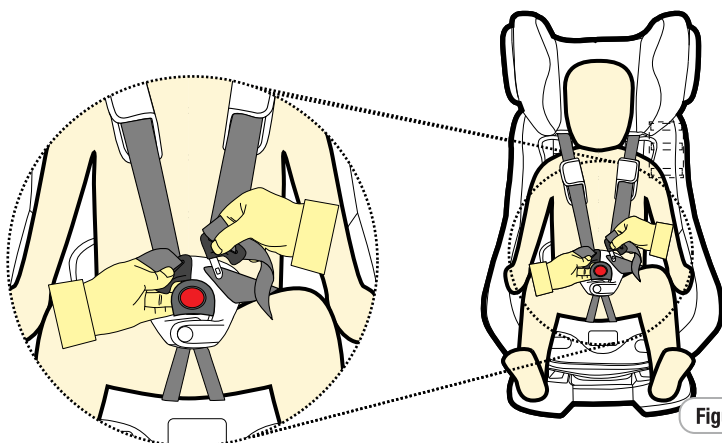

Figure 2
Step 3: Place the child in the restraint with legs either side of the buckle, place the harness over the shoulders and hips (refer Figure 2).